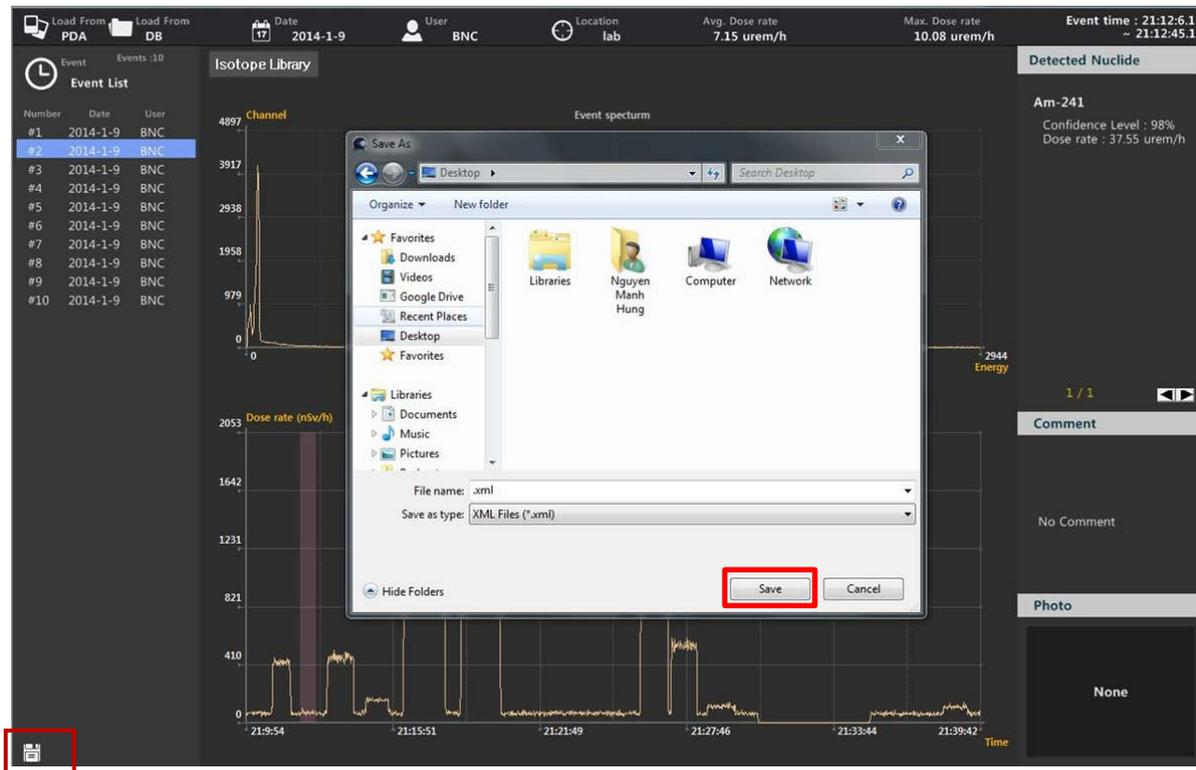

Figure 6.6. Save as XML file format example
1. Select the event from the event list and click the disk icon (  ) in the lower left corner of the screen. The destination directory screen will appear (figure 6.6 below).